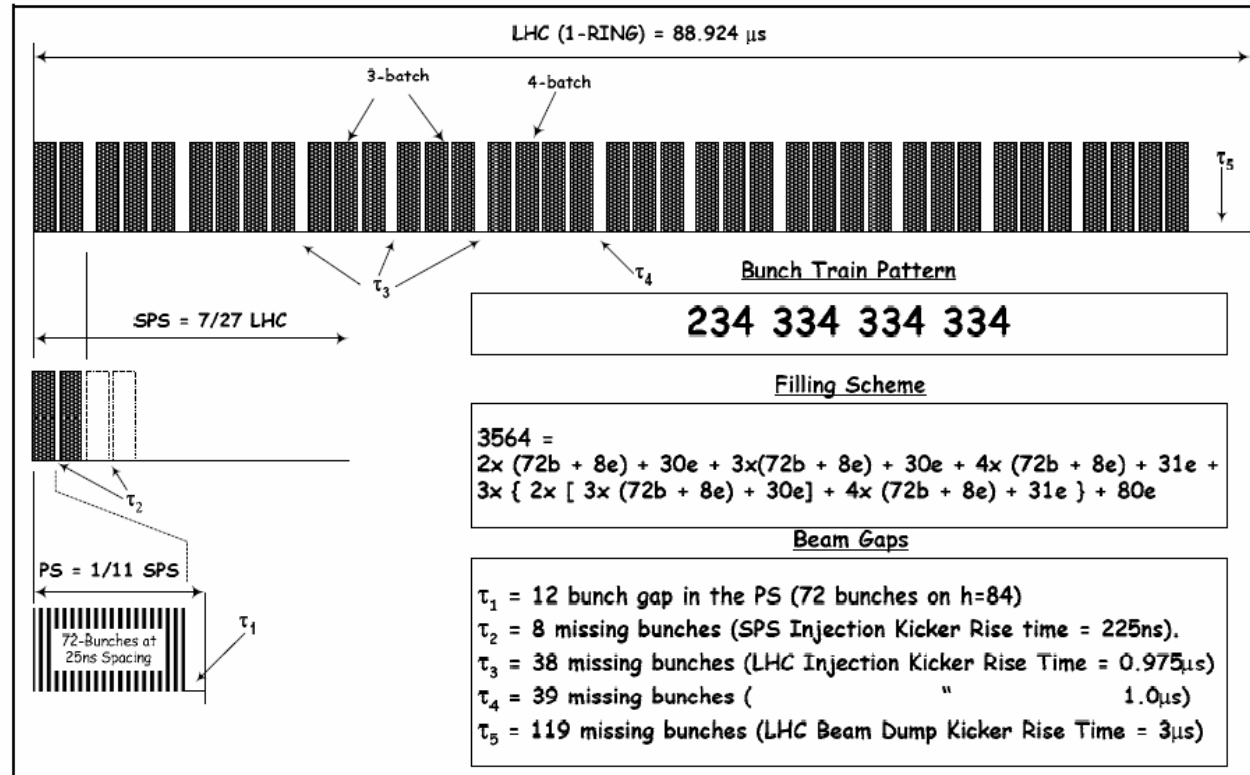

Figure 1: Schematic of the Bunch Disposition around an LHC Ring for the 25ns Filling Scheme (2808 Bunches/Ring).
- ✚ For 25ns operation the bunches will occupy buckets 1, 11, 21 etc. with gaps occurring every PS or SPS kicker gap. (see Figure 1 above reproduced from *LHC-OP-ES-0003 rev 1.0*).